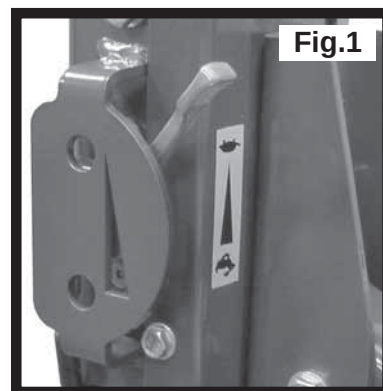

Fig.1
1. To stop the engine, set the throttle control to idle (See Fig. 1), then press and hold the red stop button until the engine stops (See Fig. 2).